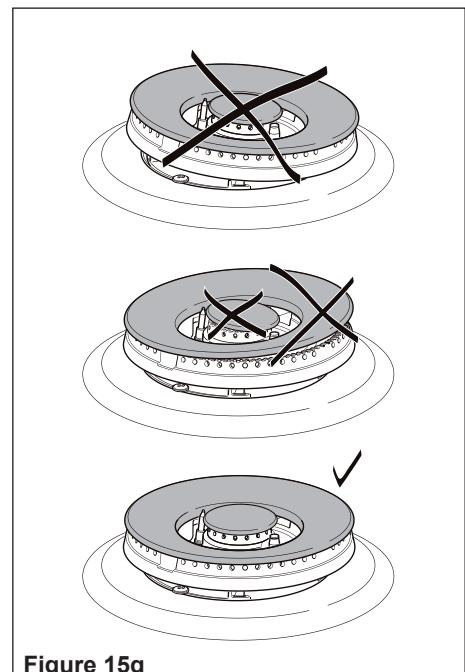

Figure 15g
- They shall be level and the flame spreader must not rotate (see fig. 15g).